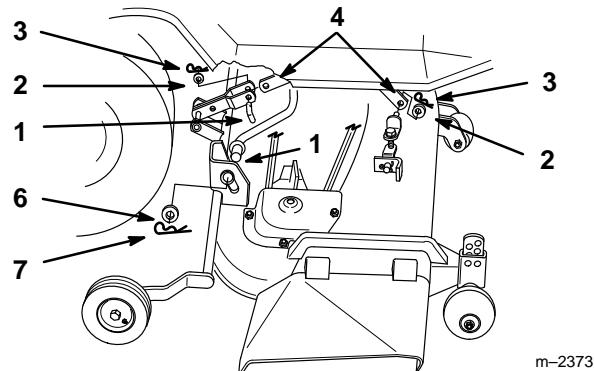

Figure 15
4. Remove hairpin cotter, washer and link pin from rear link and remove from attachment lift (Fig. 15).
5. Remove hairpin cotter and washer from front adjustable link(s) and remove from front lift arm (Fig. 15).
6. Remove hairpin coppers and washers from rear lift arms (Fig. 15).
7. Slide deck right, off rear lift arms (Fig. 15).